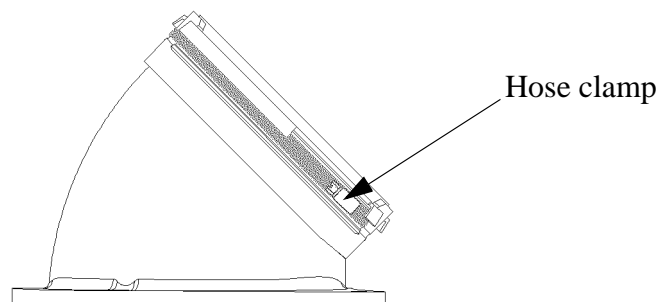
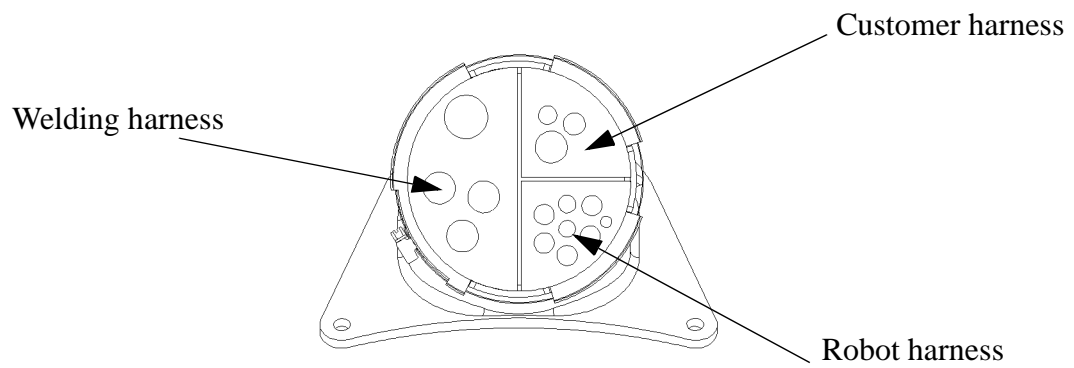

Figure 14 Cable harness clamp
Figure 17 Location of harnesses in holder
4. Remove the hose clamps from the cover <2:5/10> on the base (see Figure 14)
9. Pull the harness down through the cover <2:5/10> in the base and position it as shown in the picture (see Figure 17).
10. Fit the hose clamp with the screw in the position shown in the pictures (see Figure 14) and (Figure 17).
- 7 Remove the hose clamp from the cover <2:5/10> on the base (see Figure 14)
- 17 Position the various harnesses correctly in the cover on the base (see Figure 17).
- 18 Position the screws for the hose clamps at the correct places (see Figure 14).